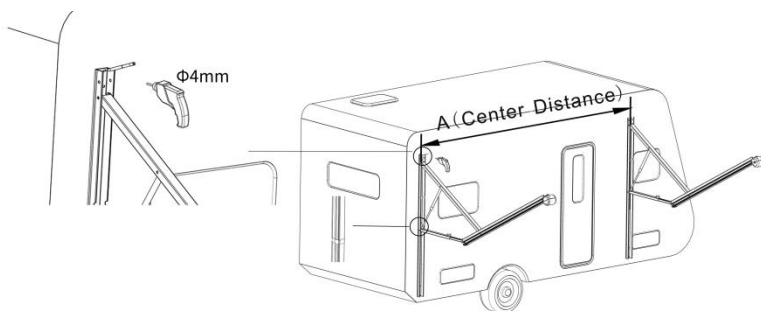

Figure C3
3.1 Remove the pneumatic folding arm, take off the safety cover, and open the folding arm. Mark the hole positions at a suitable location on the vehicle's outer side based on the center distance A of the supporting rod, and drill suitable $\phi 4\text{mm}$ installation holes in the vehicle body. (Figure C3)